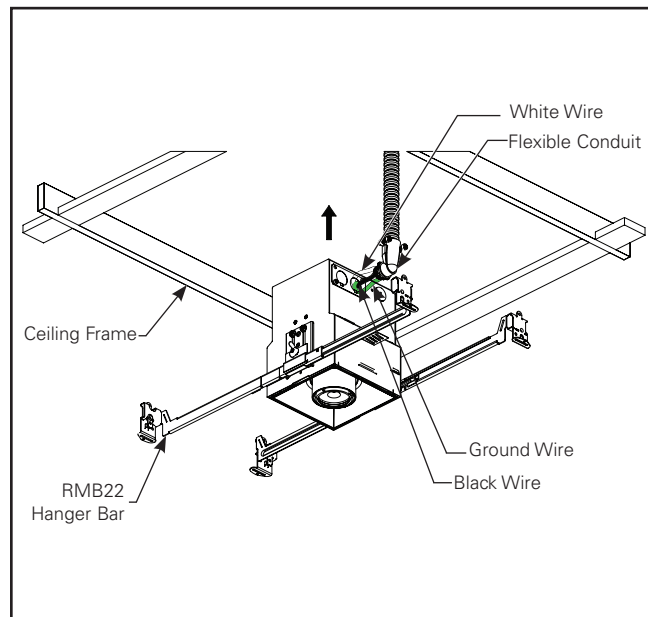

Figure 1.3.
3. Connect the power cable/flexible conduit from light to the source power lines from ceiling. (Figure 1.3)